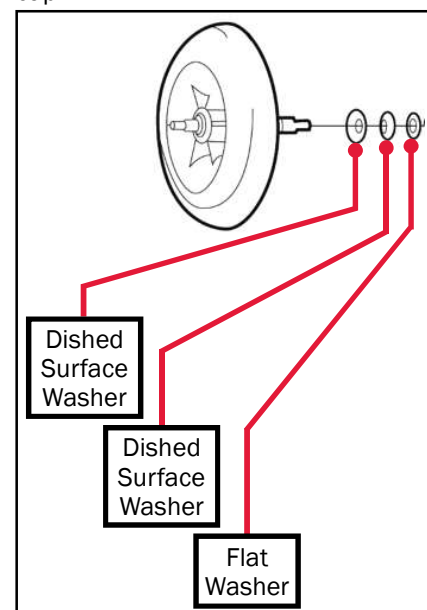

Figure 126
NOTE: Be sure to observe the placement of the three washers of the bearing kit. To ensure proper tension, the same order and direction of the dished surfaces of the washers must be followed when reassembling. See Figure 126.
- Reference Figure 126 for exact placement of the three washers that slide over the threaded end of the combustion air blower's shaft prior to installation. Failure to follow the correct order and direction of the dished surfaces on the washers will result in a restricted rotation of the combustion air blower.